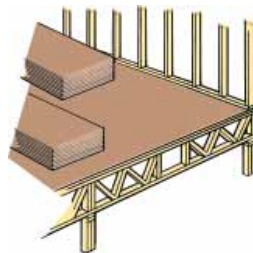

FIGURE B7-18
- ✓ Position stacks of materials flat with the longest dimension perpendicular to the trusses as shown in Figure B7-18.